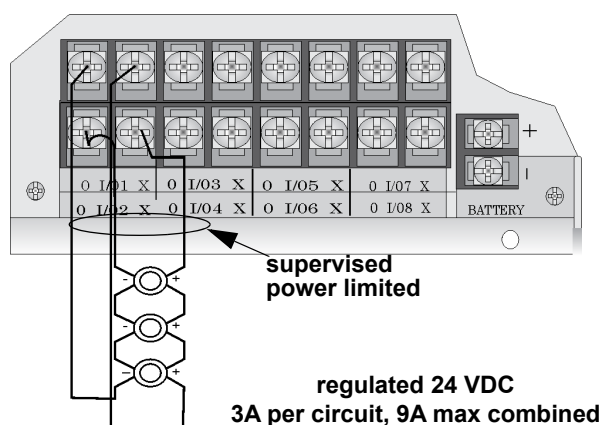

Figure 4.48 Class A Notification Appliance Circuit Configuration
1. Wire the Class A notification appliances as shown in Figure 4.48.
**NOTE:** In programming any point that uses multiple Flexput circuits, the lowest Flexput circuit number is used to refer to the circuit pair. For example, Figure 4.48 uses both Flexput circuit 1 and 2, so in programming it would be referred to as point 1.